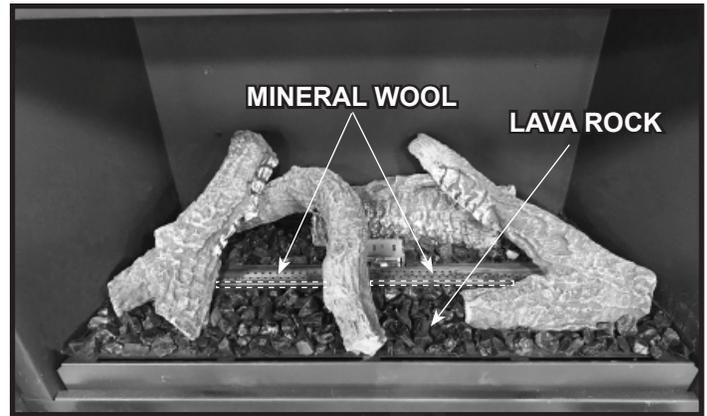

Figure 21. Properly Placed Lava Rock / Location for Mineral Wool
21. Place lava rock onto areas of the base pan to fill in around the logs as desired. It is acceptable to completely cover the base pan. DO NOT cover burner, gaps in front or behind burner, or block the space in front of the pilot assembly. Place lava rock in a single layer so no sheet metal is showing. Figure 21 shows lava rock properly placed in relation to logs and areas that must be avoided.
22. The mineral wool may be placed on two areas of the burner, which are highlighted in Figure 21. One area is in the open space between Log #4 and Log #3. The other is in between Log #3 and Log #6. Place the mineral wool onto the burner between the front row of ports and the gap in front of the burner. DO NOT cover the ports or the gap in front of the burner. The mineral wool may be spread along the burner in front of the “viewing windows” between the logs.